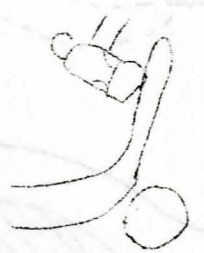

FIG. 3
STEP 3--Form the eye as shown in Fig. 3.